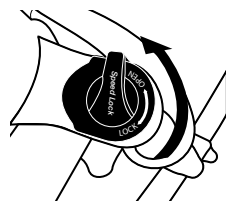

Figure 19.
- To unlock a suspension fork turn the locking lever in the direction indicated by the arrow with the description "OPEN" until it stops. (See the example on *Figure 19*).